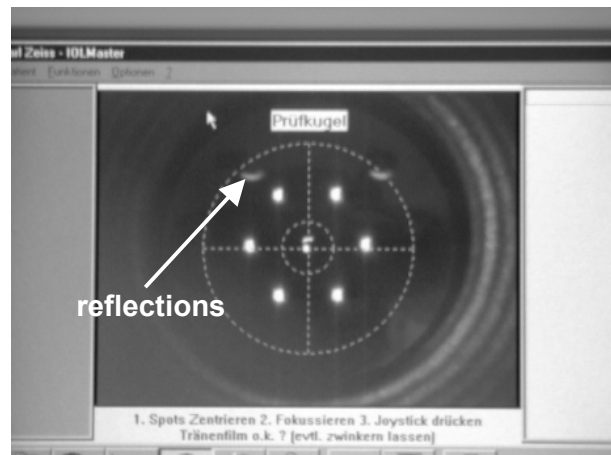

Fig. 33
- Check the image of the keratometer measurement marks. The image must not display any reflections, see Fig. 33.